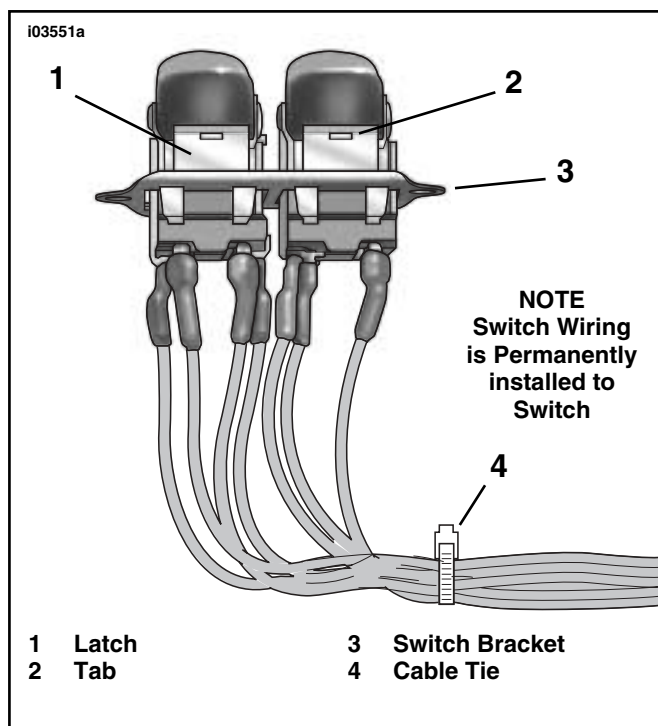

Figure 10. Cruise Switch Components
43. See Figure 10 and Service Parts Illustration. Obtain cruise switch (7) from kit. Route switch wiring through bracket. Place switch into position. Engage tabs on switch in slots of latches, then gently bend tabs upward to lock position of switch in bracket.